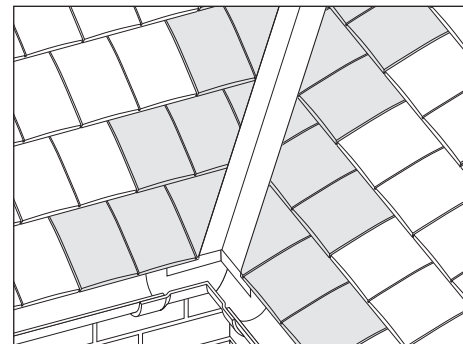

Fig. 27 – Typical bedded valley – tile and a half tiles shown shaded
- 3 Bed raking cut tiles at edges of valley using mortar, ensuring that there is adequate space kept clear behind mortar to avoid water capillarity (Fig. 27).